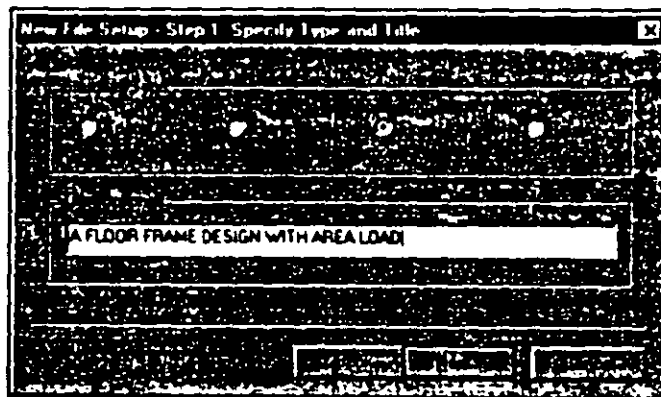

Figure 2.5
4. In the *New File Setup* dialog box, choose *Floor* as the *Structure Type* and specify an optional *Title* (A FLOOR FRAME DESIGN WITH AREA LOAD). Then click on the *Next* button as shown in Figure 2.5.